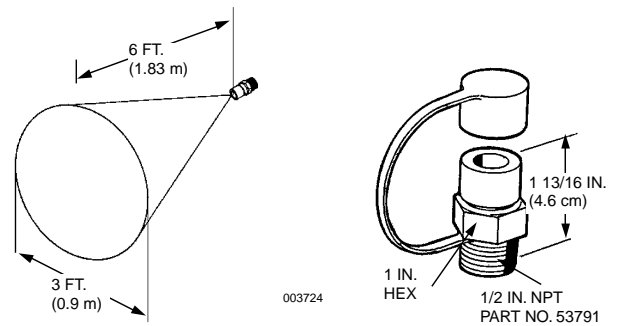

FIGURE 17
► Three types of nozzles are approved for use with the A-101/ LT-A-101 system. One type is the F-1/2 nozzle. This nozzle gives a 180° fan shape pattern and can be used for either total flooding or local application. The second type of nozzle is the C-1/2. This nozzle gives a cone pattern and is used for direct application to a vehicle component or burning surface. The third type of nozzle is the V-1/2. This nozzle produces a 160° fan shape pattern and is generally used for screening engine compartments, torque converters and all other hazard areas. All nozzles are constructed of brass and require protective blow-off caps. Exception: The F-1/2 nozzle can utilize either a blow-off cap or the opening can be packed with a good grade of extreme temperature silicone grease, such as Dow Corning No. 4. See Figure 17.